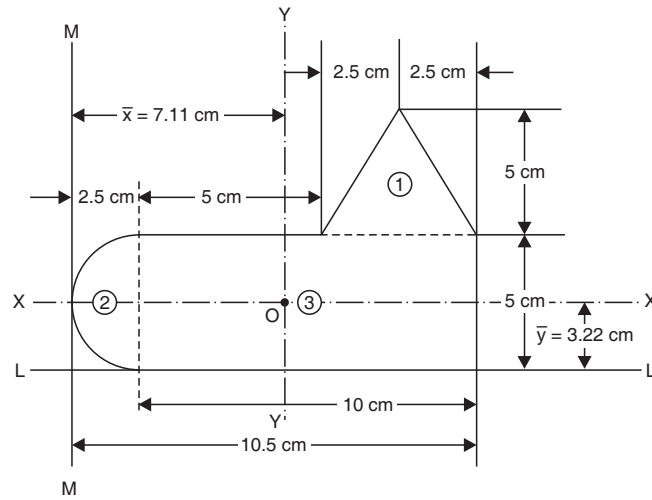

Fig. 4.22
**Example 4.3.** Using the analytical method, determine the centre of gravity of the plane uniform lamina shown in Fig. 4.22.
**Sol.** Refer to Fig. 4.22.